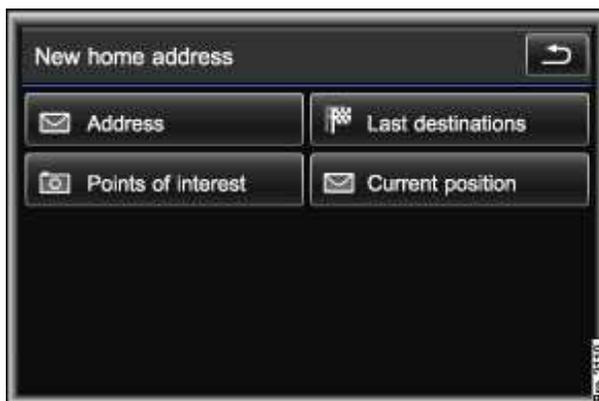

Fig. 192 Menu: New home address.
- Confirm message to open **New home address** menu ⇒ fig. 192.